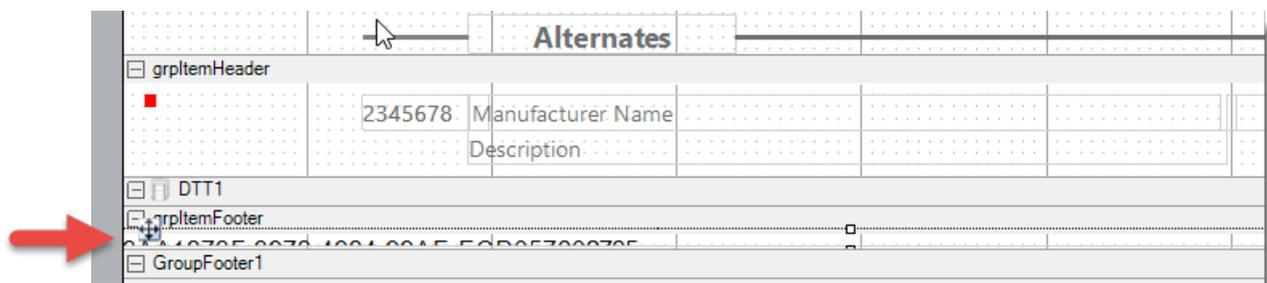

Figure 9. Select the embedded subreport
- Repeat the first six steps for the 'Proposal Level2 Items' subreport. Before previewing and publishing this subreport we need to embed our custom 'Proposal Level3 Items' report. This subreport gets embedded in the 'grpItemFooter' report section. It is the only control in that section. Select the subreport (See Figure 9) and then right-click on it. Choose 'Bind to D-Tools Report'. In the dialog box find your custom 'Proposal Level3 Items' report and select it.